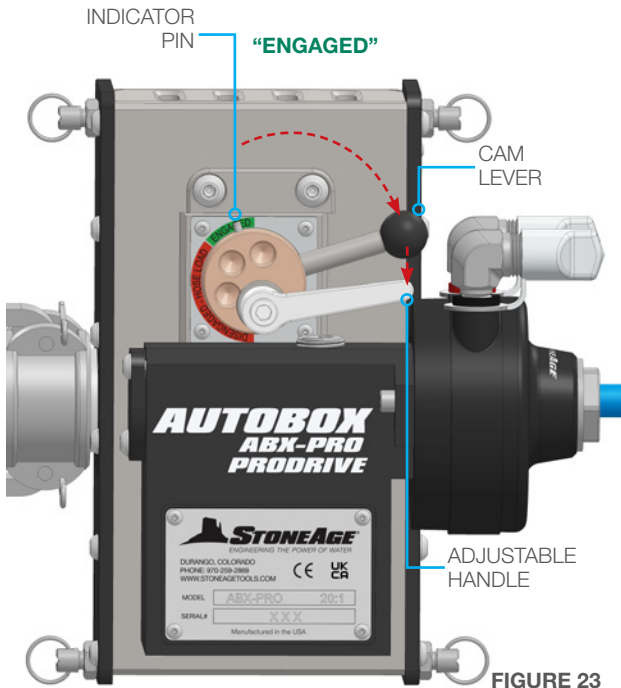

FIGURE 23
4. Rotate the Cam Lever clockwise to the **“Engaged”** position to tighten the Idler Roller down onto the hose. There should be a slow slip on the hose. If the slip is too tight or loose, move the Eccentric Lever off until a slow slip is obtained. Once the slip level is achieved, push down on the Adjustable Handle to tighten the bushing assembly. **(Figure 23)**